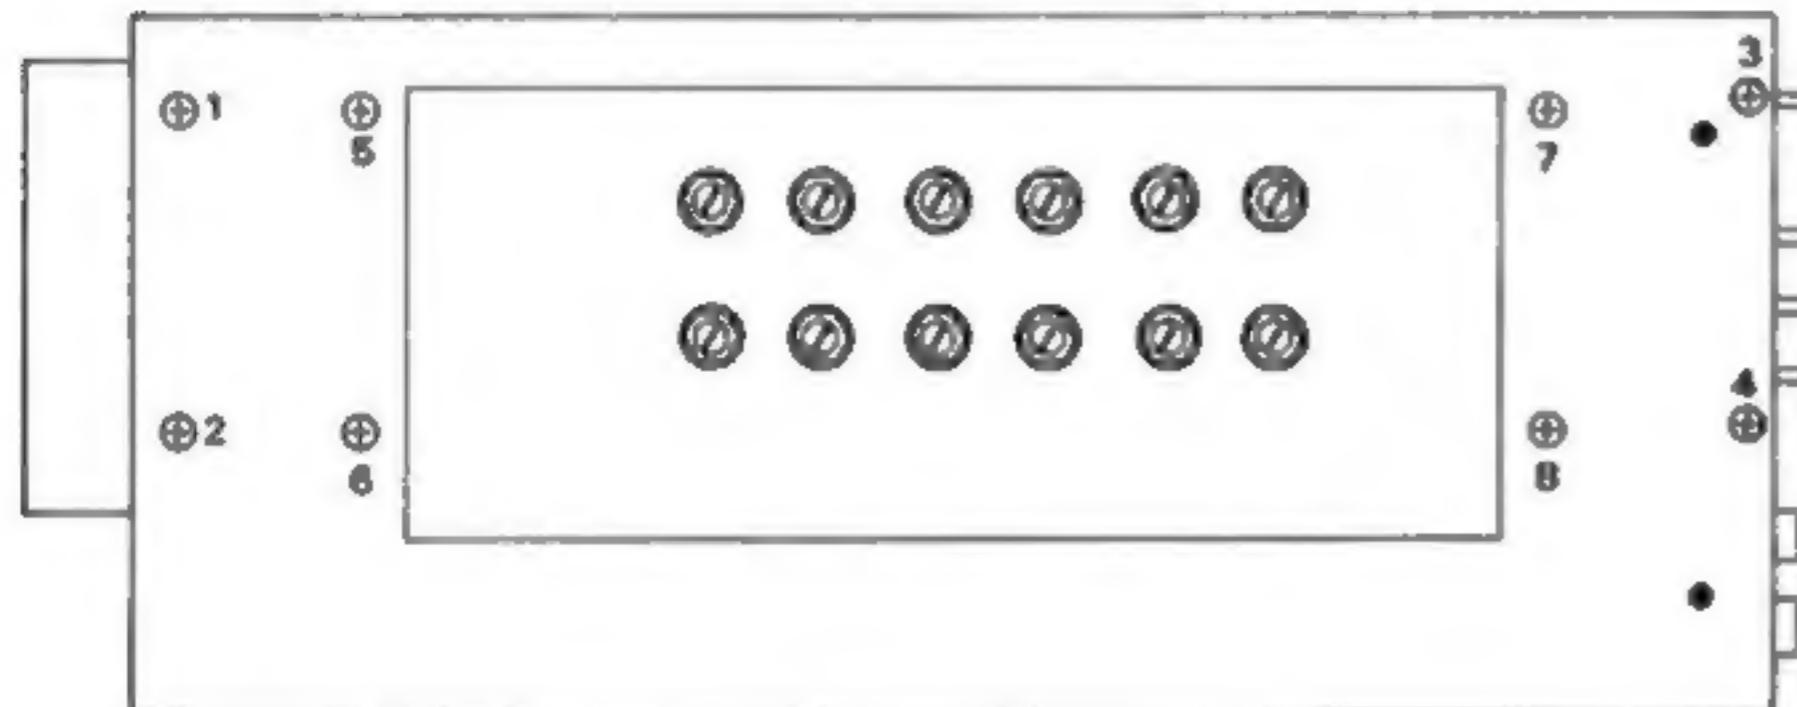

Fig. 1-7 LEFT SIDE VIEW (1)
- After completing procedures 1 to 3, remove the left side panel by unscrewing the 4 left side panel mounting screws. (Fig. 1-7, screws 1-4).
- Next, after unscrewing the 8 side panel mounting screws and indicator board mounting screws (Fig. 1-7, screws 1-8), remove the side panel, by holding the side adjacent to the rear panel and pulling it out toward the rear. Remove the indicator board.